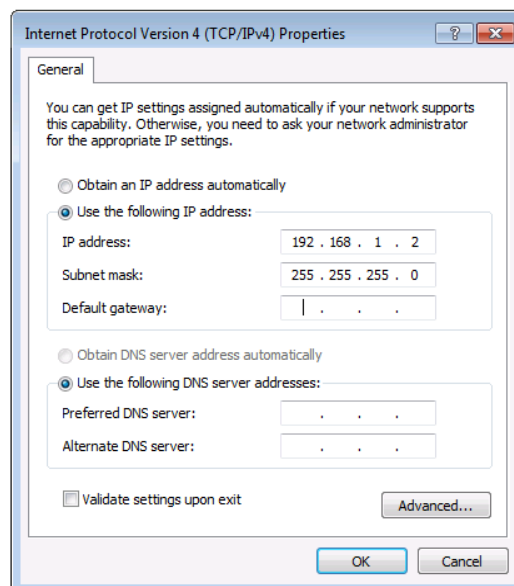

Figure 9: Internet Protocol Properties Window
6. Select **Use the following IP Address** for static IP addressing and fill in the details as shown in Figure 9: Internet Protocol Properties Window